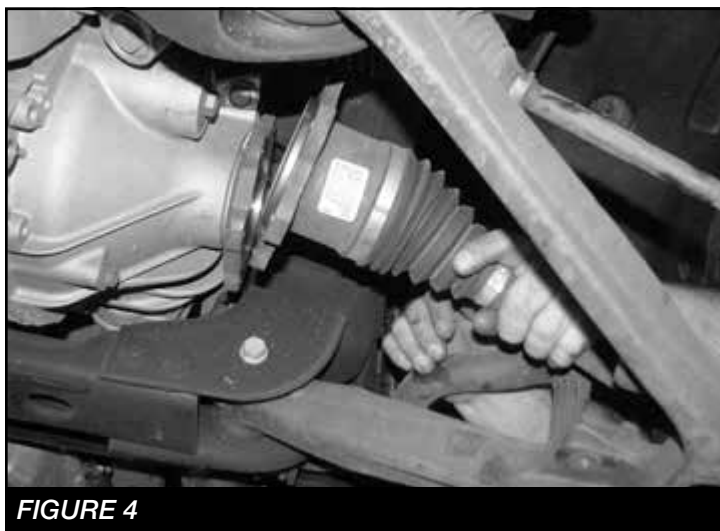

FIGURE 4
7. Remove the factory CV shaft from the differential drive flange. Retain Hardware. **SEE FIGURE 4**